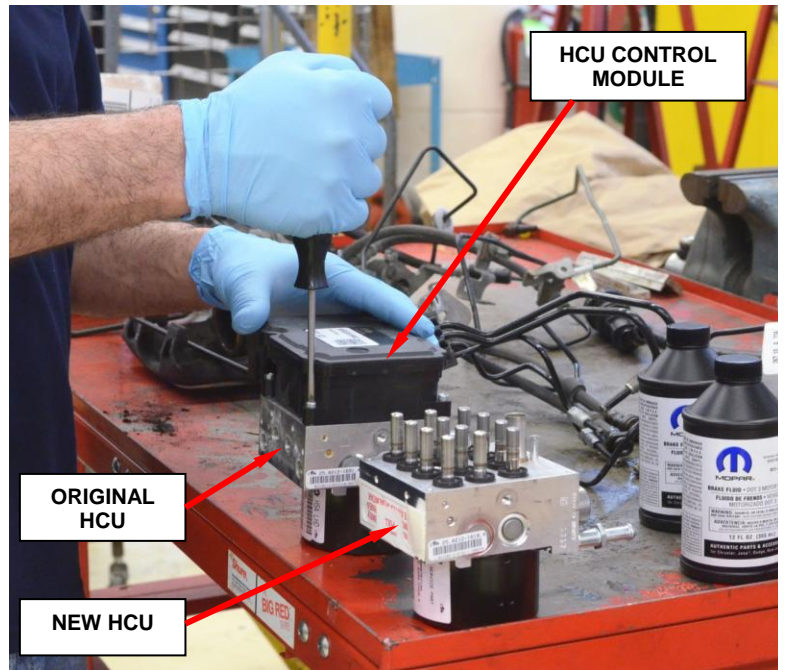

Figure 24 – Transfer HCU Control Module
60. Transfer the HCU control module from the original HCU to the new HCU (Figure 24).